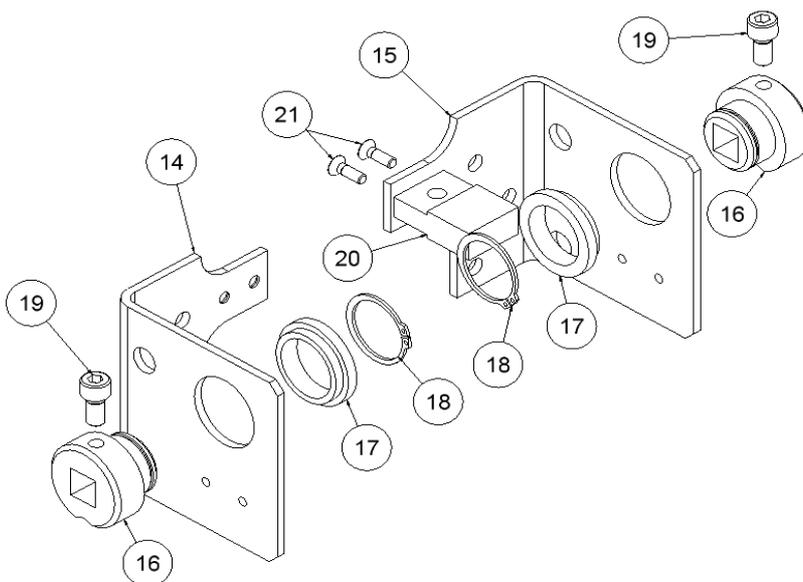

Figure.4
It must be taken in care during the assembly the fact that the left mounting plate is different than the right one (14 and 15). Make sure that the holes for the electrical switch remain always in the lower part. (See Fig. 4).
The nylon tips (17) must be introduced in each mounting plate in the way shown at Fig.4, later on, the support caps (16) must be inserted from the opposite side (with the V milling in the lower part), joining them through a security ring M30 x 1,5 DIN 471 (18) (with the help of straight-end pliers).
It is useful in this moment to screw the tensor support (20). It should be located in the same side that the governor linkage through two M5 x 10 DIN 7991 (21) screws. The whole process is shown at figure.4.